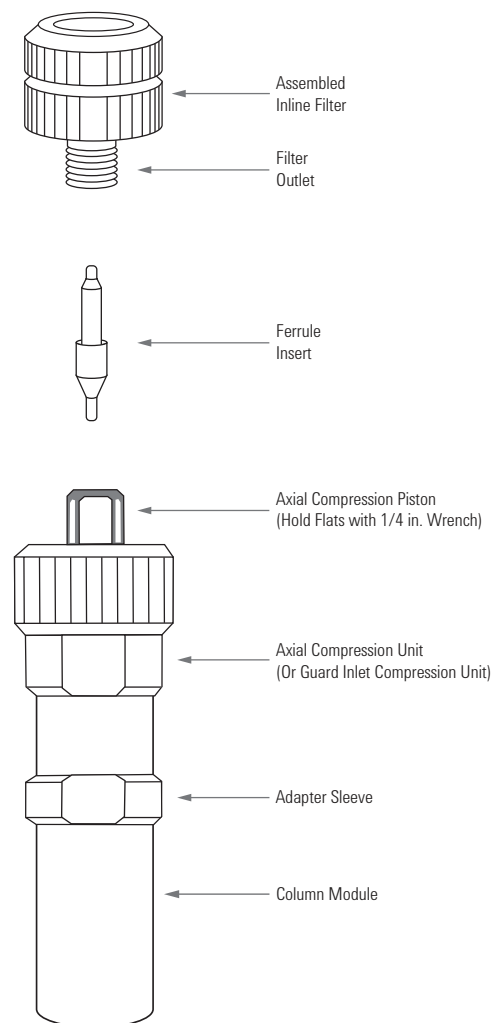

Figure 6. Filter Installation
3.8. To install the inline solvent filter, place a ferrule insert (two are supplied) into the inline filter outlet in the orientation shown in Figure 6. Thread the filter outlet into the axial compression piston until you notice slight resistance. Hold the axial compression piston with a 1/4" wrench to prevent it turning, and fingertighten the filter. (The piston must be held with a wrench to avoid scraping the bed support.) Connect the column to the HPLC system and test for leaks. If necessary, hold the piston steady with the wrench and retighten the filter BY HAND only enough to prevent leaks. Tightening more than this is unnecessary.
7.10. Place a ferrule insert into the inline filter outlet. (See Figure 6.) Thread the filter outlet into the guard inlet compression nut until you notice slight resistance. Fingertighten the filter.